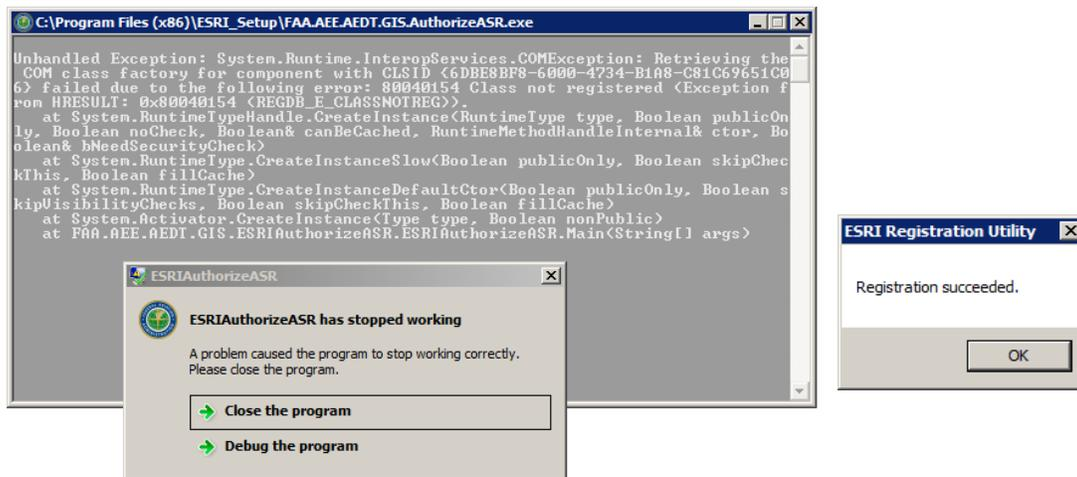

Figure 2-17 ArcGIS Engine Runtime – Installation Complete
- The installation progress will be displayed. Once the installation and key authorization are complete, the following confirmation message will be displayed (Figure 2-17). Click *OK* to close the message.